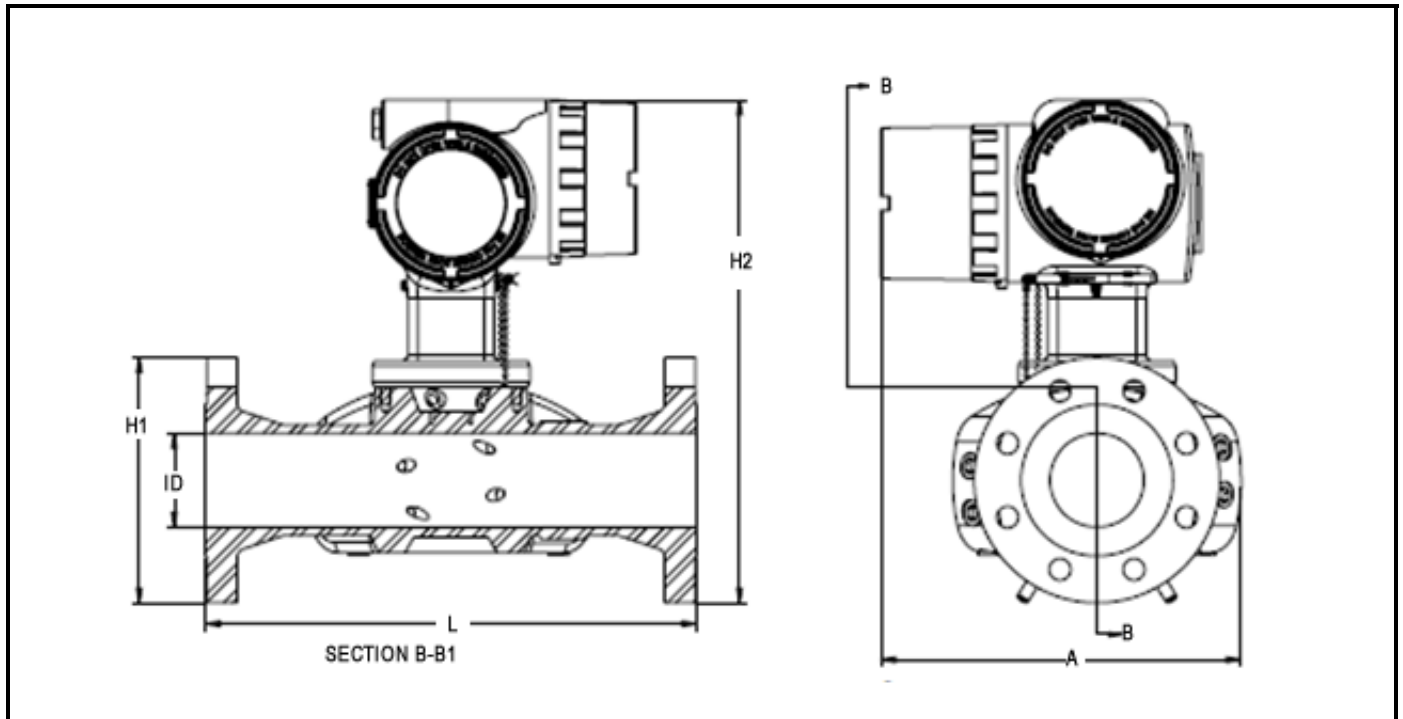

Figure 8: Flowcell Assembly for Sentinel LCT4 with 3" and 4" Pipes
**Note:** Use Figures 8 and 9 to identify L, H2 and A measurements in Table 4 on page 15.